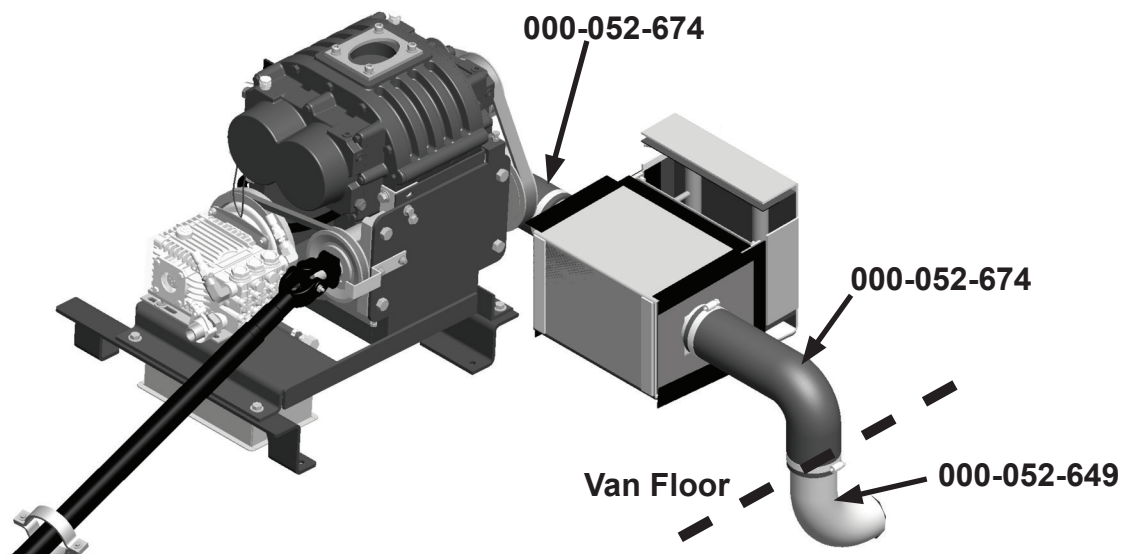

Figure 38. Connect Salsa's Rubber Hoses and Elbow
Dry fit the Salsa Heat Exchanger behind the driver's seat location. Mark the location on the van's floor where the 3" diameter rubber hose (P/N 000-052-674) will be inserted (see Figure 38).
2. Connect the 3" diameter rubber hose (P/N 000-052-674) on the outlet weldment of the Salsa, and route it through the hole in the van floor. Secure the hose to the Salsa outlet with a hose clamp (see Figure 38).
3. From under the van's floor, slip fit the 3" aluminum elbow (P/N 000-052-649) into the rubber hose protruding through the floor. Secure the elbow to the hose with a hose clamp (see Figure 38).